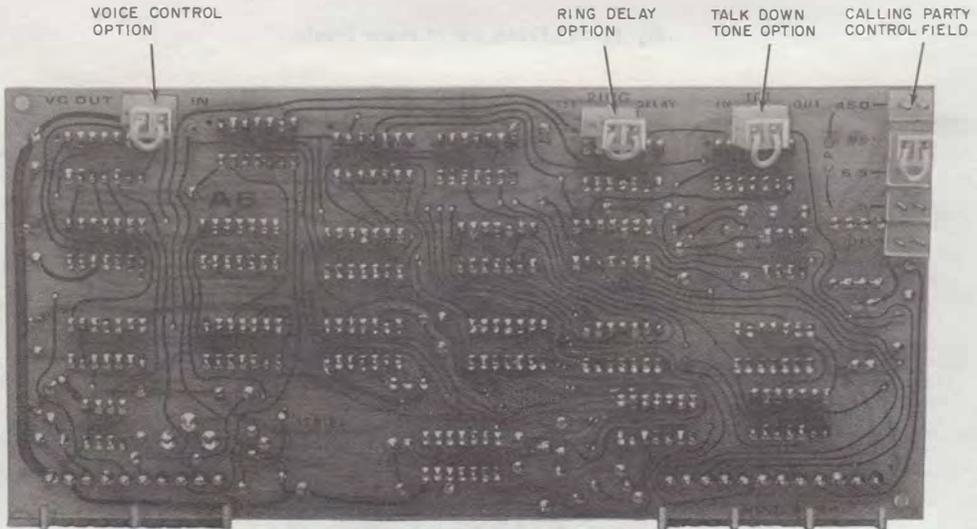

Fig. 16—KS-19245, List 17 Logic Board
A6 (Fig. 16) is a printed circuit wiring board containing the line seizure, ring-up circuitry, and installer options.
(b) **KS-19245, Lists 13 (MD), 24 (MD), and 26 Telephone Answering Sets:** Move voice control from IN to OUT on List 17 logic board (Fig. 16).
(b) **KS-19245, Lists 13 (MD), 24 (MD), and 26 Telephone Answering Sets:** Move calling party control plug to required position per Table B (Fig. 16).